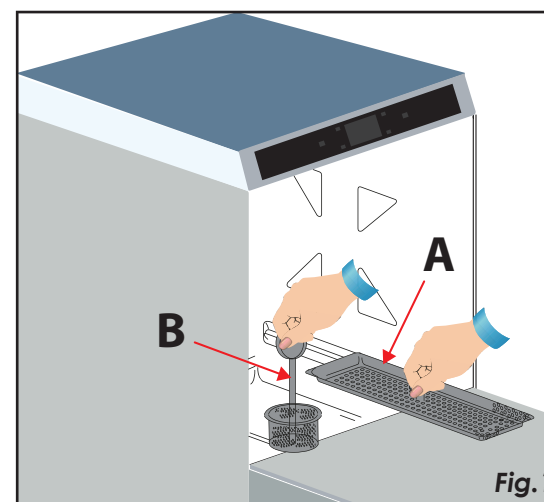

Fig. 1
2. With the machine ON, press the Drain button (3) for 4 seconds. The display will show TANK DRAINING (13).
3. Once drained remove the SURFACE FILTER (A) and the PUMP SUCTION FILTER (B) and clean with a brush under running water. Replace the SURFACE FILTER (A) and the PUMP SUCTION FILTER (B) after cleaning and before initiating a new cycle, Fig. 1.